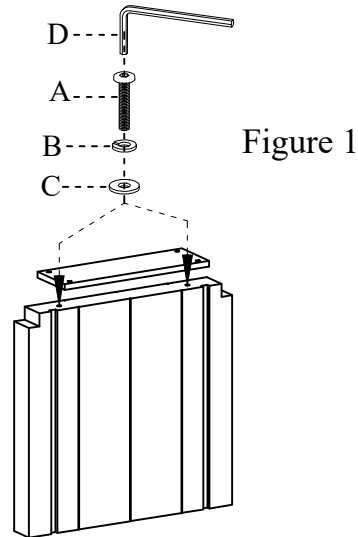

Figure 1
2. Attach the Mounting plate to the back panel using Bolt (A), Lock Washer (B) and Flat Washer (C) and tighten with the Allen Wrench (D).As Shown in Figure 1.